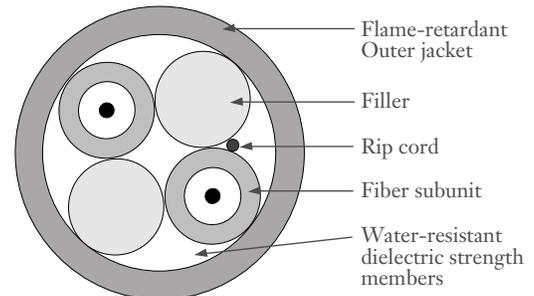

Figure 1
1.2 Corning Cable Systems OFNR FREEDM® Fan-Out Cables utilize flame-retardant, 900 µm TBII® buffered fiber subunits surrounded by water-resistant, dielectric strength members and protected by a flexible, flame-retardant outer jacket (Figure 1). All-dielectric cable construction requires no grounding or bonding, and the cable is available in single-mode and multimode fiber versions. The cable's easily terminated 2.9 mm subunits enable field terminations